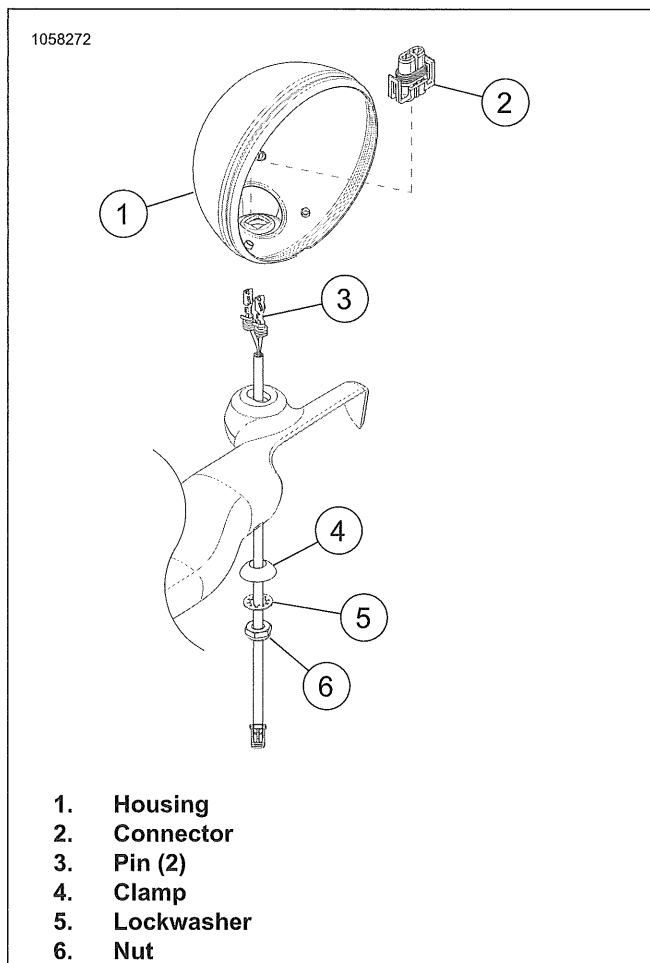

Figure 7-65. Auxiliary Lamp Housing with LED Signal
- See Figure 7-65. Using flare nut socket loosen nut (6).
- Tighten nut (6).